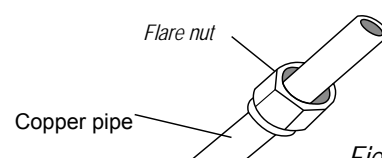

Fig. 6.3
3. Place flare nuts on both ends of pipe. Make sure they are facing in the right direction, because you can't put them on or change their direction after flaring. See Fig. 6.3